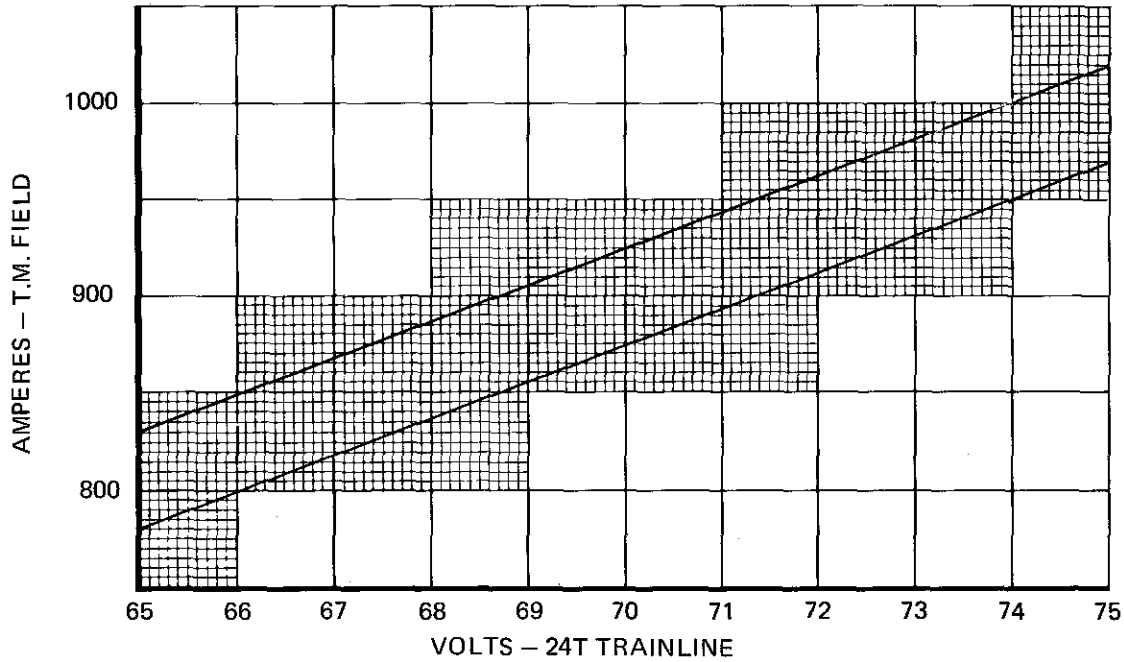

Fig. 4
8. With the unit set up for dynamic brake put the throttle in maximum brake position and observe traction motor field current (generator current) and 24T voltage. Adjust RH3 using Fig. 4. Return throttle to idle.
4. With the GF fuses in place, set up the unit for dynamic brake and place throttle in maximum position. Observe 24T voltage and TM Field Current and adjust RH3 using Fig. 4 so that setting is within the graph limits.